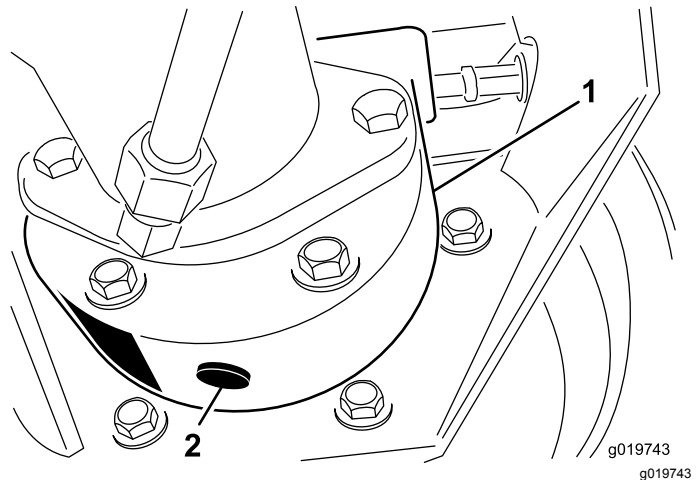

Figure 73
3. Place a drain pan under the brake housing, remove the drain plug, and allow the oil to drain (Figure 73).